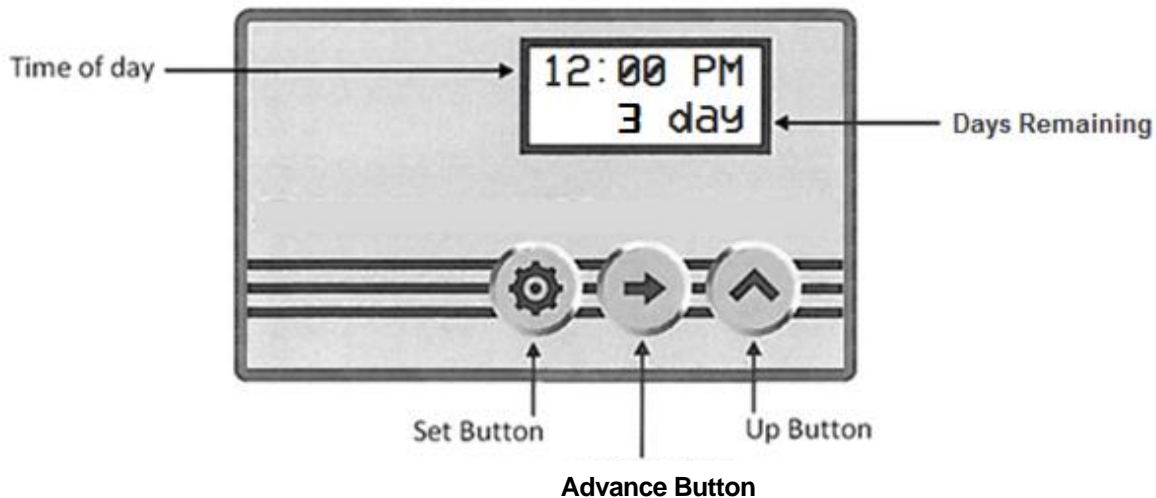

FIGURE 8: FEBW Display Panel
FEBW ONLY: advance the control valve to the “Service” position (Figure 8, Page 11) by briefly pressing the middle button (ADVANCE) briefly and then repeating as each countdown timer begins, until the time of day is displayed.
FEBW ONLY: Set the current time of day by pressing the far left button (SET) and using the far right button (UP) to set the time and the middle button (ADVANCE) to move between hour, minutes and AM/PM. Refer to Figure 8, Page 11.